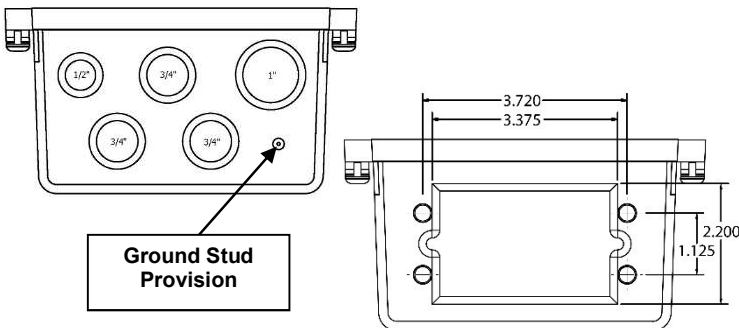

Figure 1
1. Remove desired knockouts (conduit and electrical box) from moveable access plate(s) by removing the appropriate plate(s) from the enclosure, scoring desired K/O(s) with utility knife then prying them out with a flat head screwdriver. (Figure 1)
2. For receptacle installation install old work steel electrical box into receptacle access plate using 4 #6 x 1/4" Pan Head Self-Tapping Screws (Included). Install electrical receptacle in accordance with NEC and local electrical codes. Be sure to install receptacle cover plate as shown. (Figure 1 & 2)
4. For ground stud installation drill #10 clearance hole in the plate and install 10-32 x 1.160 stud with 3 nuts and 6 washers (Included in FMC-A1). (Figure 1)